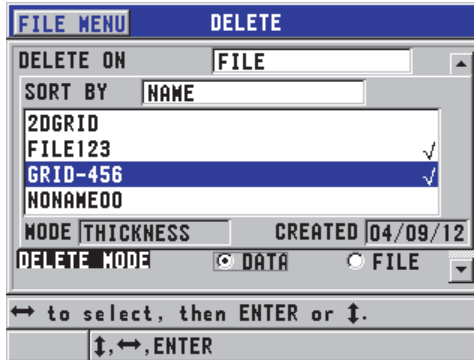

Figure 6-31 Deleting a file
2. In the **DELETE** screen (see Figure 6-31 on page 114):